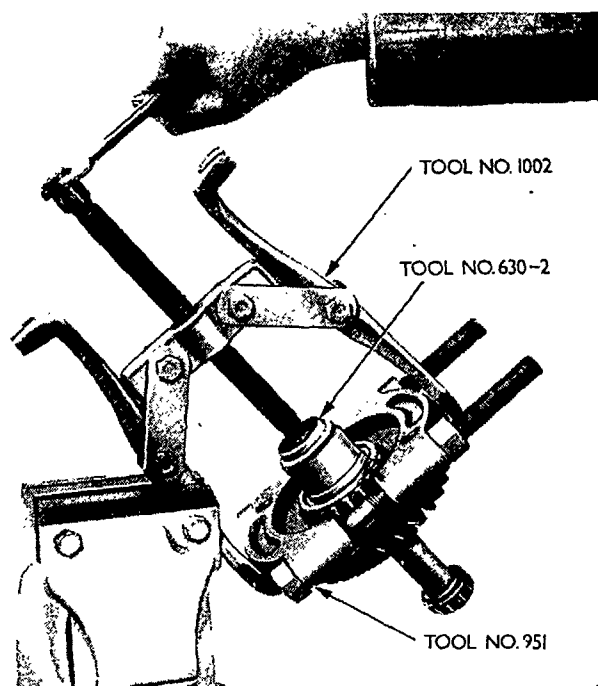

Figure 3
2. Inspect the drive gear bearing cones and rollers for excessive wear or damage. Renew if necessary. Remove using Tools Nos. 1002, 951 and adaptor plate 630-3 for the forward end, Figure 3, or adaptor 625-3 for the rear end. Use suitable sleeves to install the new bearing cone and roller assemblies.